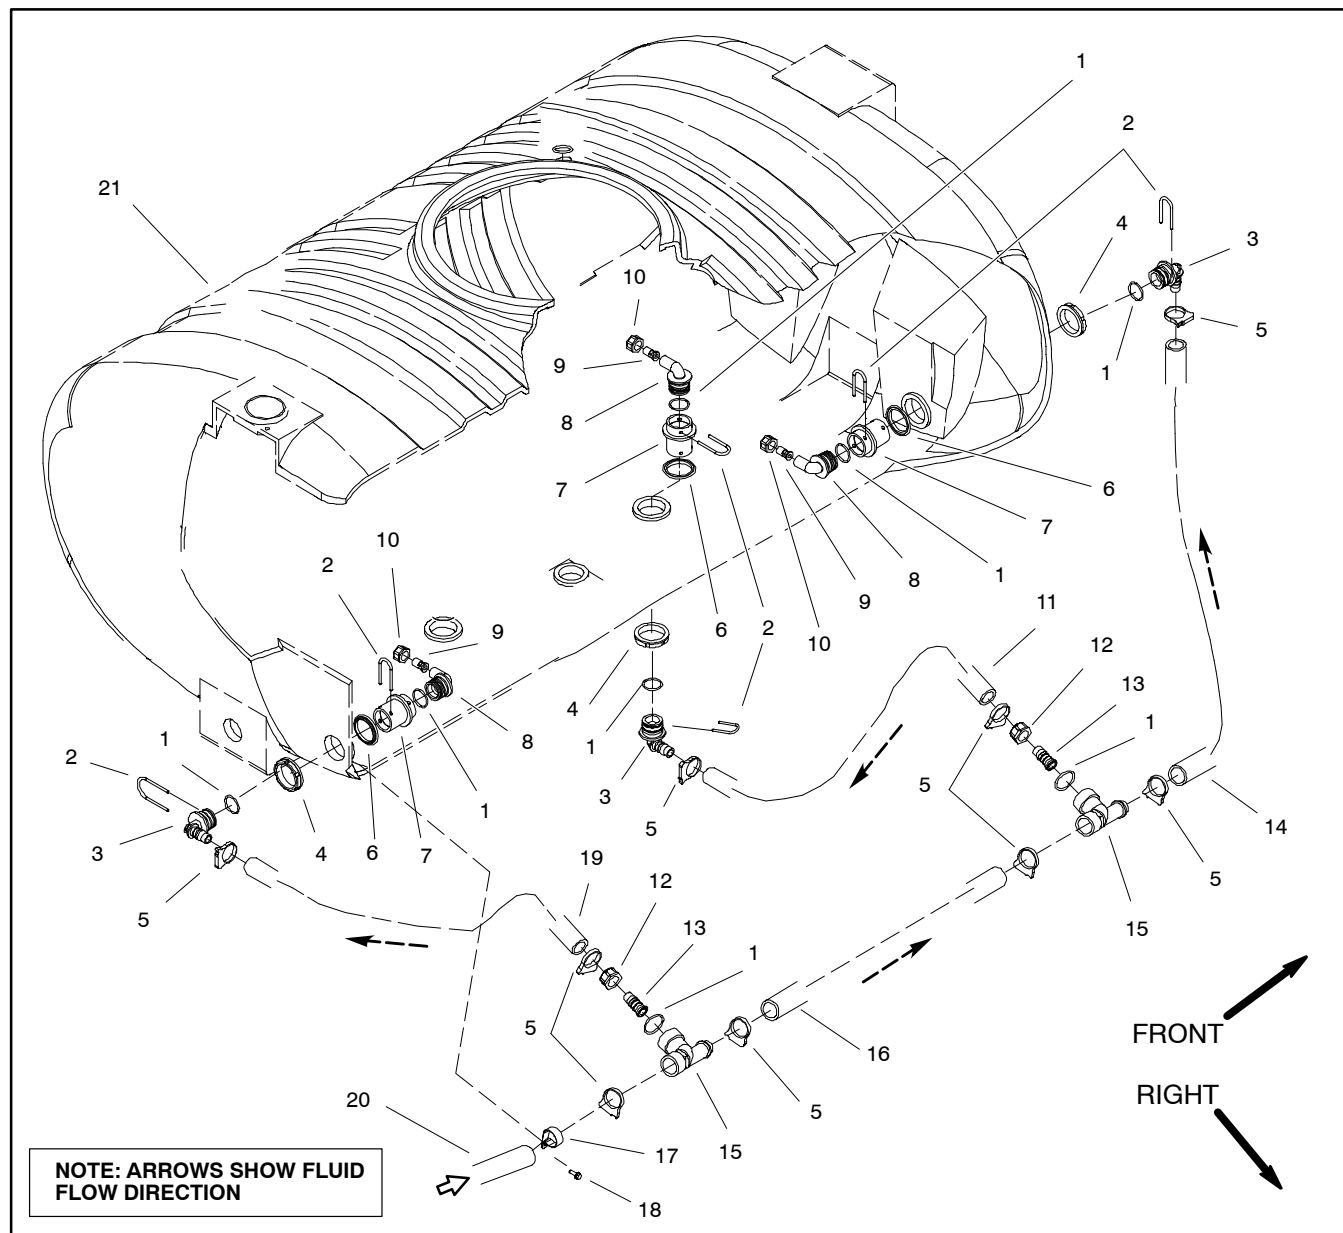

Figure 14
Disassembly (Fig. 14)
4. Remove agitation nozzles as required using Figure 14 as a guide. Discard all removed O-rings and gaskets.
Assembly (Fig. 14)
1. Install agitation nozzles using Figure 14 as a guide. Replace all removed O-rings and gaskets.